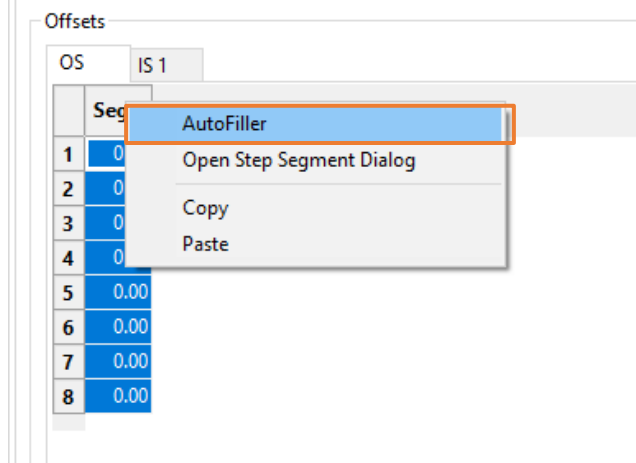

Figure 195
9. We can change the outer segment offset values manually or we can also use the autofiller tool. To do this, right-click on the Seg1 label and select the **[AutoFiller]** (Figure 195).